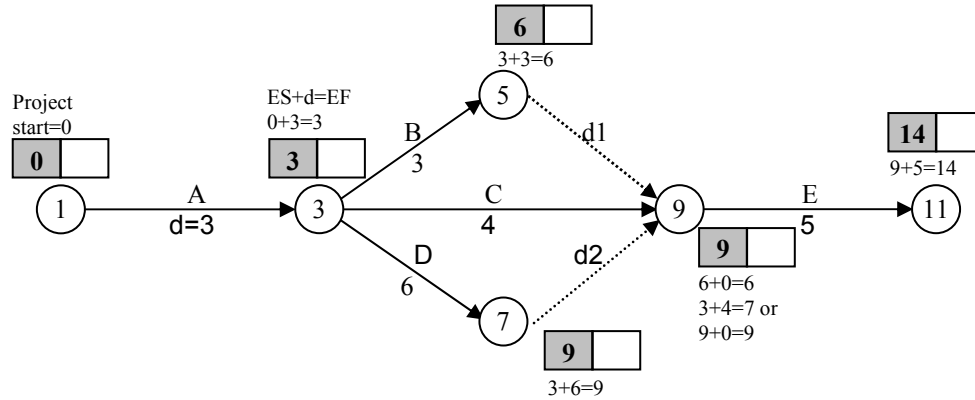

Figure 4.4: Forward path calculations in AOA networks
- We now move to node 3. This node receives one head arrow, and as such, it has one predecessor, activity A. Since the predecessor started on time zero and has 3 days duration, then, it ends early at time 3 (Early-Finish (EF) = Early-Start (ES) + d). Accordingly, the ES time of all successor activities to node 3 (activities B, C, and D) is time 3. This value is therefore, put in the shaded box on top of node 3, as shown in Figure 4.4.
- We now move forward to successor nodes 5, 7, and 9. However, since node 9 is linked to nodes 5 and 7 by dummy activities, we begin with nodes 5 and 7. Node 5 receives one head arrow from its predecessor activity B, we evaluate the EF time of B as 6 (ES (3) + d (3)). Successor activities to node 5, therefore, can have an ES time of 6. Similarly, the ES time at node 7 is calculated as time 9.
- Moving to node 9, we evaluate the EF times of its 3 predecessors (d1, C, and d2) as time 6, 7, and 9, respectively. Accordingly, the ES time of successor activities is the largest value 9. Notice that only the largest EF value of predecessor activities is used to calculate the ES of successor activities and all other values not used. As such, only ES values can be directly read from the calculations in Figure 4.4. EF values, on the other hand can be calculated as $EF = ES + d$.